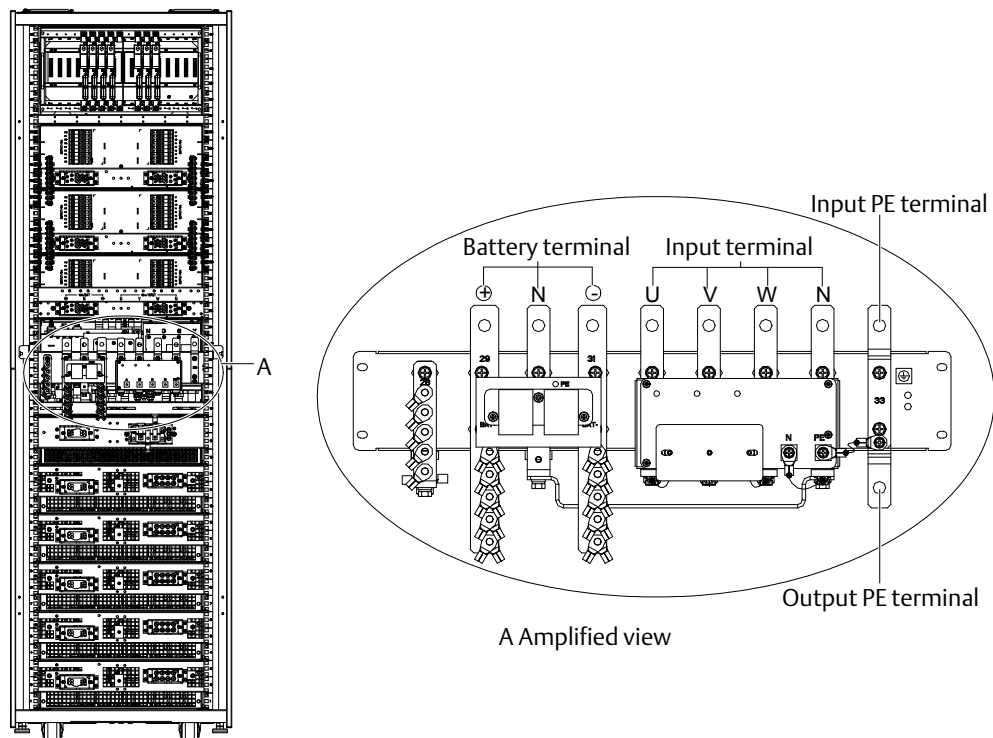
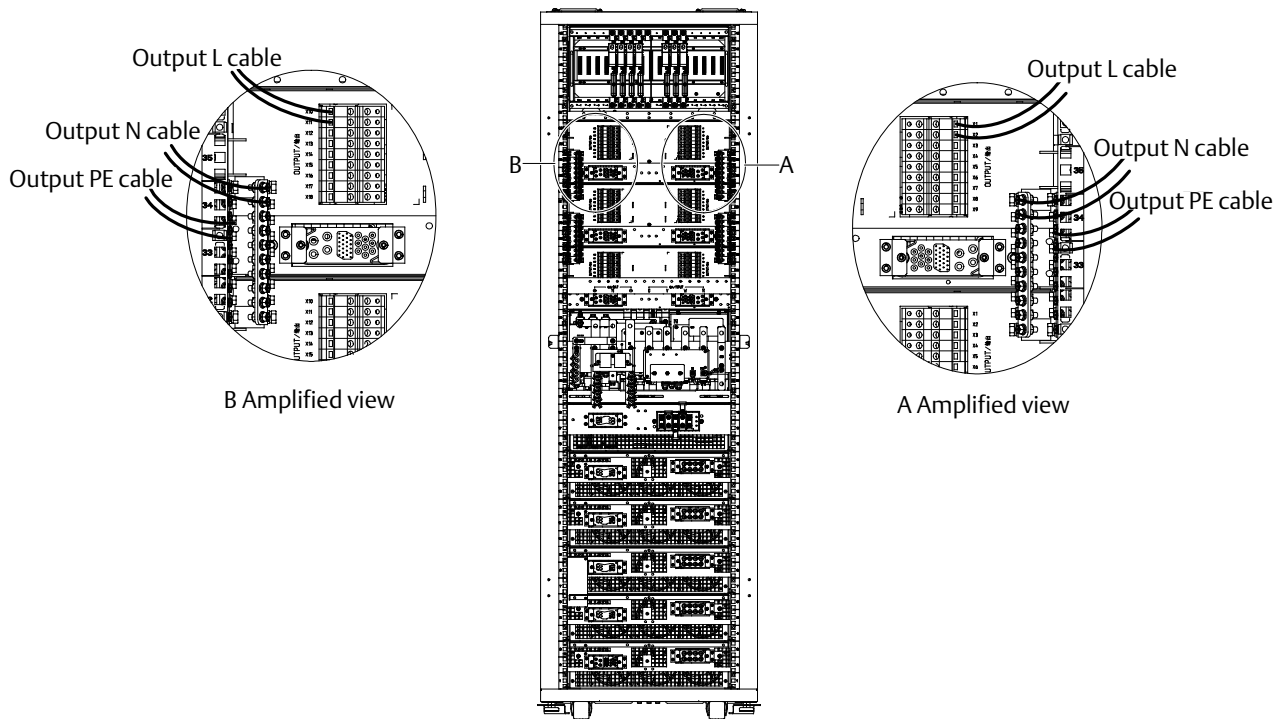
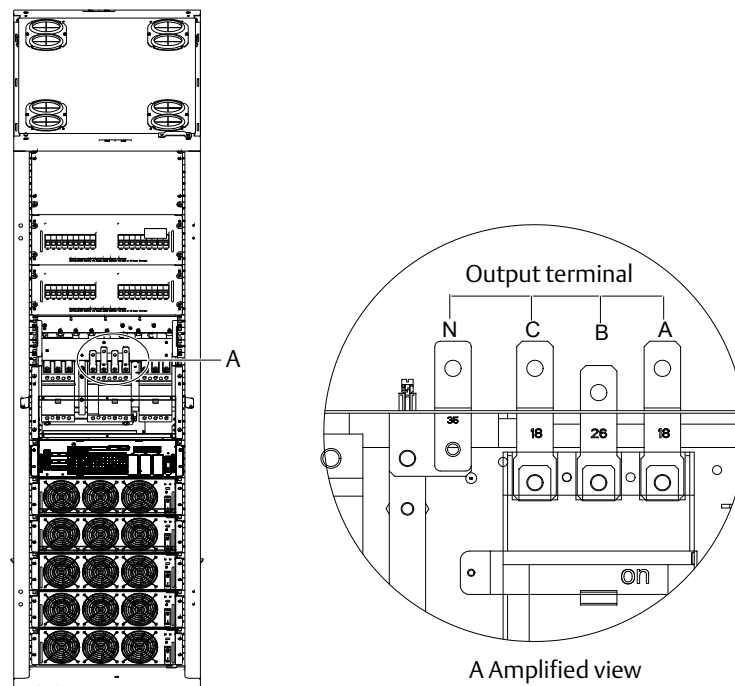

Figure 3-2 Input terminals, battery terminals and PE terminals (back view)
Figure 3-3 Cable connection to output terminals of output distribution module (back view)
Figure 3-5 Output terminals of UPS with output distribution module (front view)
The input terminals, battery terminals and PE terminals are shown in Figure 3-2. The output terminals are shown in Figure 3-3 ~ Figure 3-5.
The PE cables should be connected solidly to the PE terminals (see Figure 3-2).
2. Open the back door of the UPS cabinet and remove the protective cover to gain access to the input terminals, battery terminals and PE terminals, as shown in Figure 3-2.
1) If output distribution modules are configured, connect the L cables, N cables and PE cables between the output terminals of the output distribution modules and the load according to Figure 3-3. Tighten the bolts (M6) to 5Nm. Ensure correct phase rotation.
2) If output distribution modules are not configured, connect the output cables between the output terminals (see Figure 3-5) on the front of the UPS cabinet and the loads. Connect the output PE cable to the output PE terminal (see Figure 3-2) on the back of the cabinet.